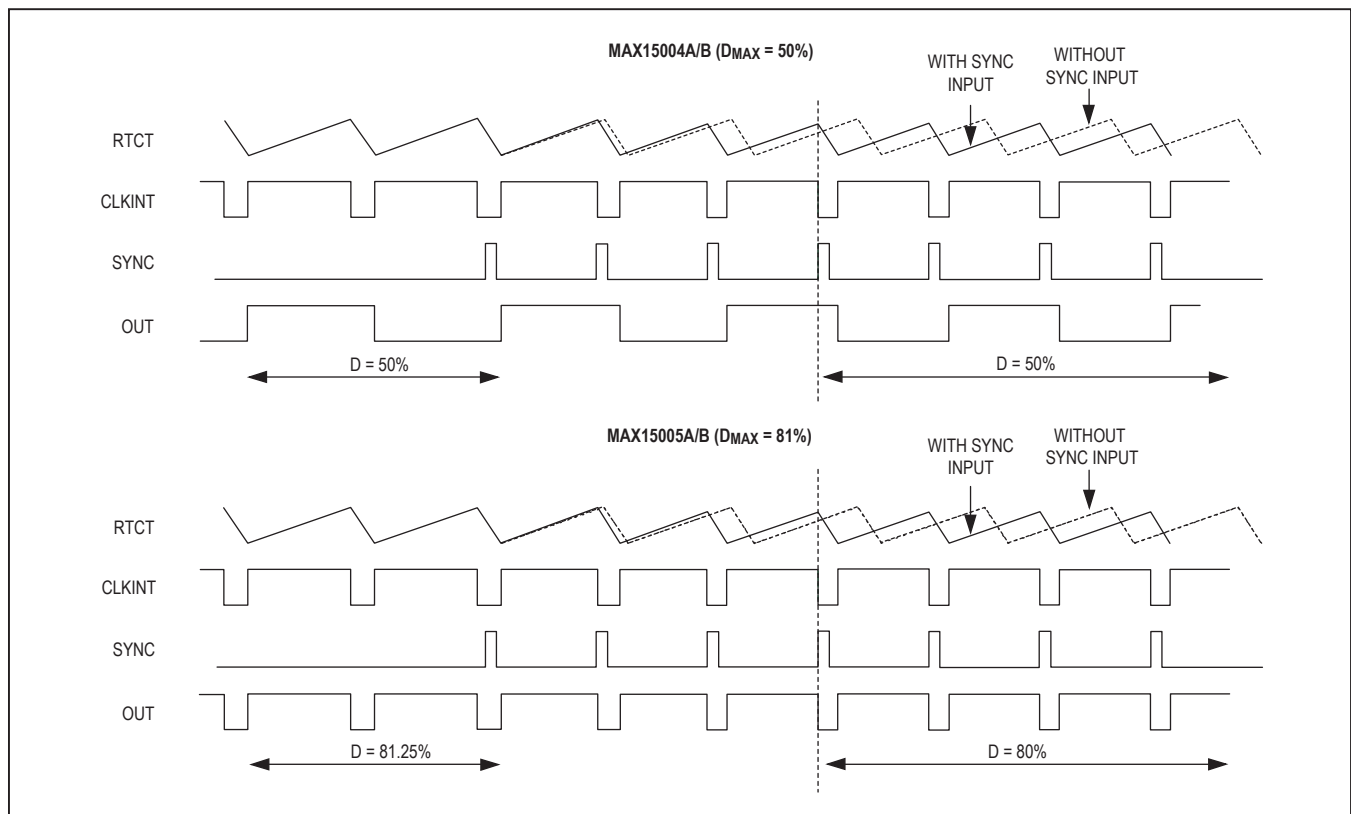

Figure 2. Timing Diagram for Internal Oscillator vs. External SYNC and DMAX Behavior
**Note 4:** The external SYNC pulse triggers the discharge of the oscillator ramp. See Figure 2. During external SYNC,  $D_{MAX} = 50\%$  for the MAX15004A/B/C/D; for the MAX15005A/B/C/D, there is a shift in  $D_{MAX}$  with  $f_{SYNC}/f_{OSC}$  ratio (see the Oscillator Frequency/External Synchronization section).